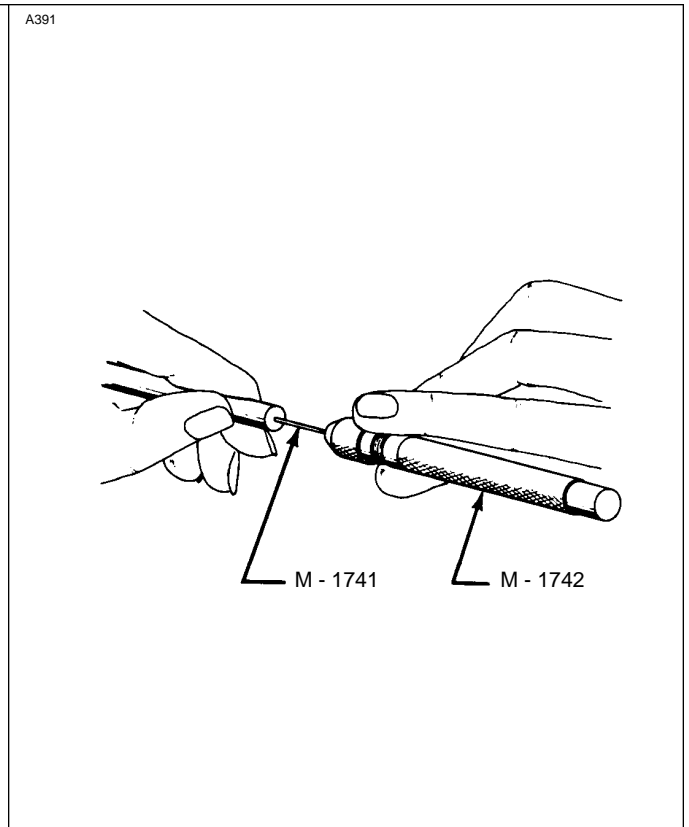

Figure 8-17 Removing Silicone Rubber from Wire
- f. Using M-1742 Pin Vise, insert M-1741 Drill (#72 drill). Drill out the silicone rubber from inside of coiled conductor approximately 0.375 inch deep. Refer to Figure 8-17.